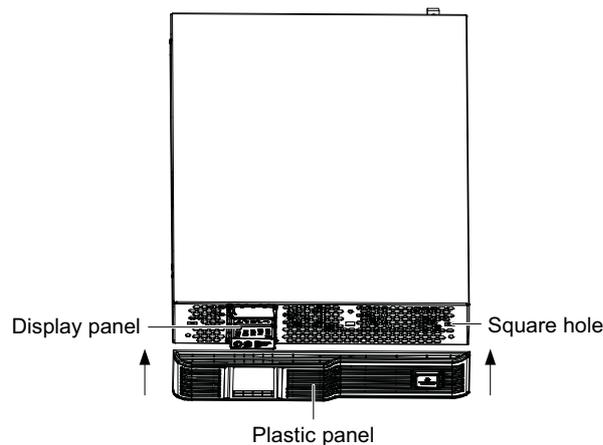

Figure 2-2 Installing the plastic panel
2) Align the plastic panel with the display panel of the UPS, and press the metal buckles at both sides of the plastic panel into the square holes on the front panel of the UPS according to the arrow direction, as shown in Figure 2-2.